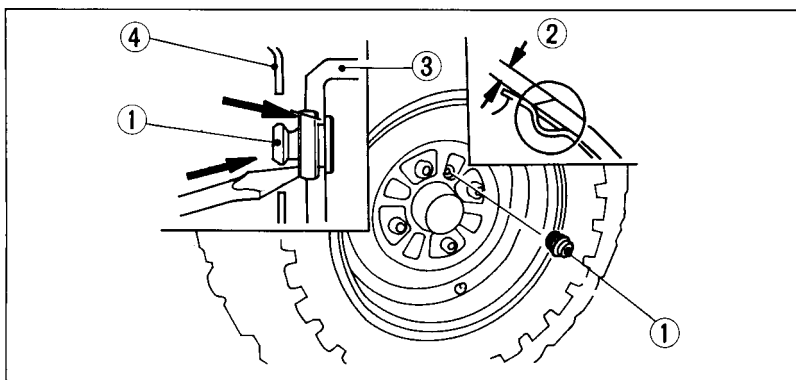

Fig. 4-23
(1) Front brake lever
2. Remove the inspection hole plug (Fig. 4-23) and measure the lining thickness (2) on both front wheels.
3. If the brake lever free play and the brake shoe lining thicknesses are within the recommended limits, reinstall the inspection hole plugs, seating them into the inspection holes as shown in Fig. 4-23.
3. Beginning with either the left or right front wheel, remove the inspection hole plug (Fig. 4-23) and line up the hole with one of the brake adjusters (Fig. 4-23).
4. Using a screwdriver, turn up the brake shoe adjuster (1) until the front brake locks.
(1) Brake adjuster
7. Reinstall the inspection hole plug, seating it into the inspection hole as shown in Fig. 4-23.